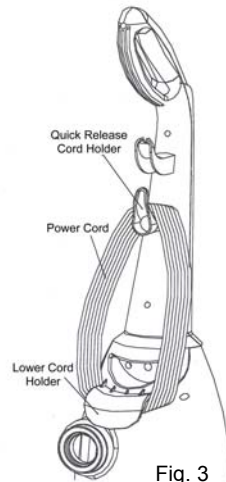

Fig. 3
3. Wrap the cord into place by wrapping it in a clockwise direction around the quick release cord holder and the lower cord holder as shown. (fig. 3)